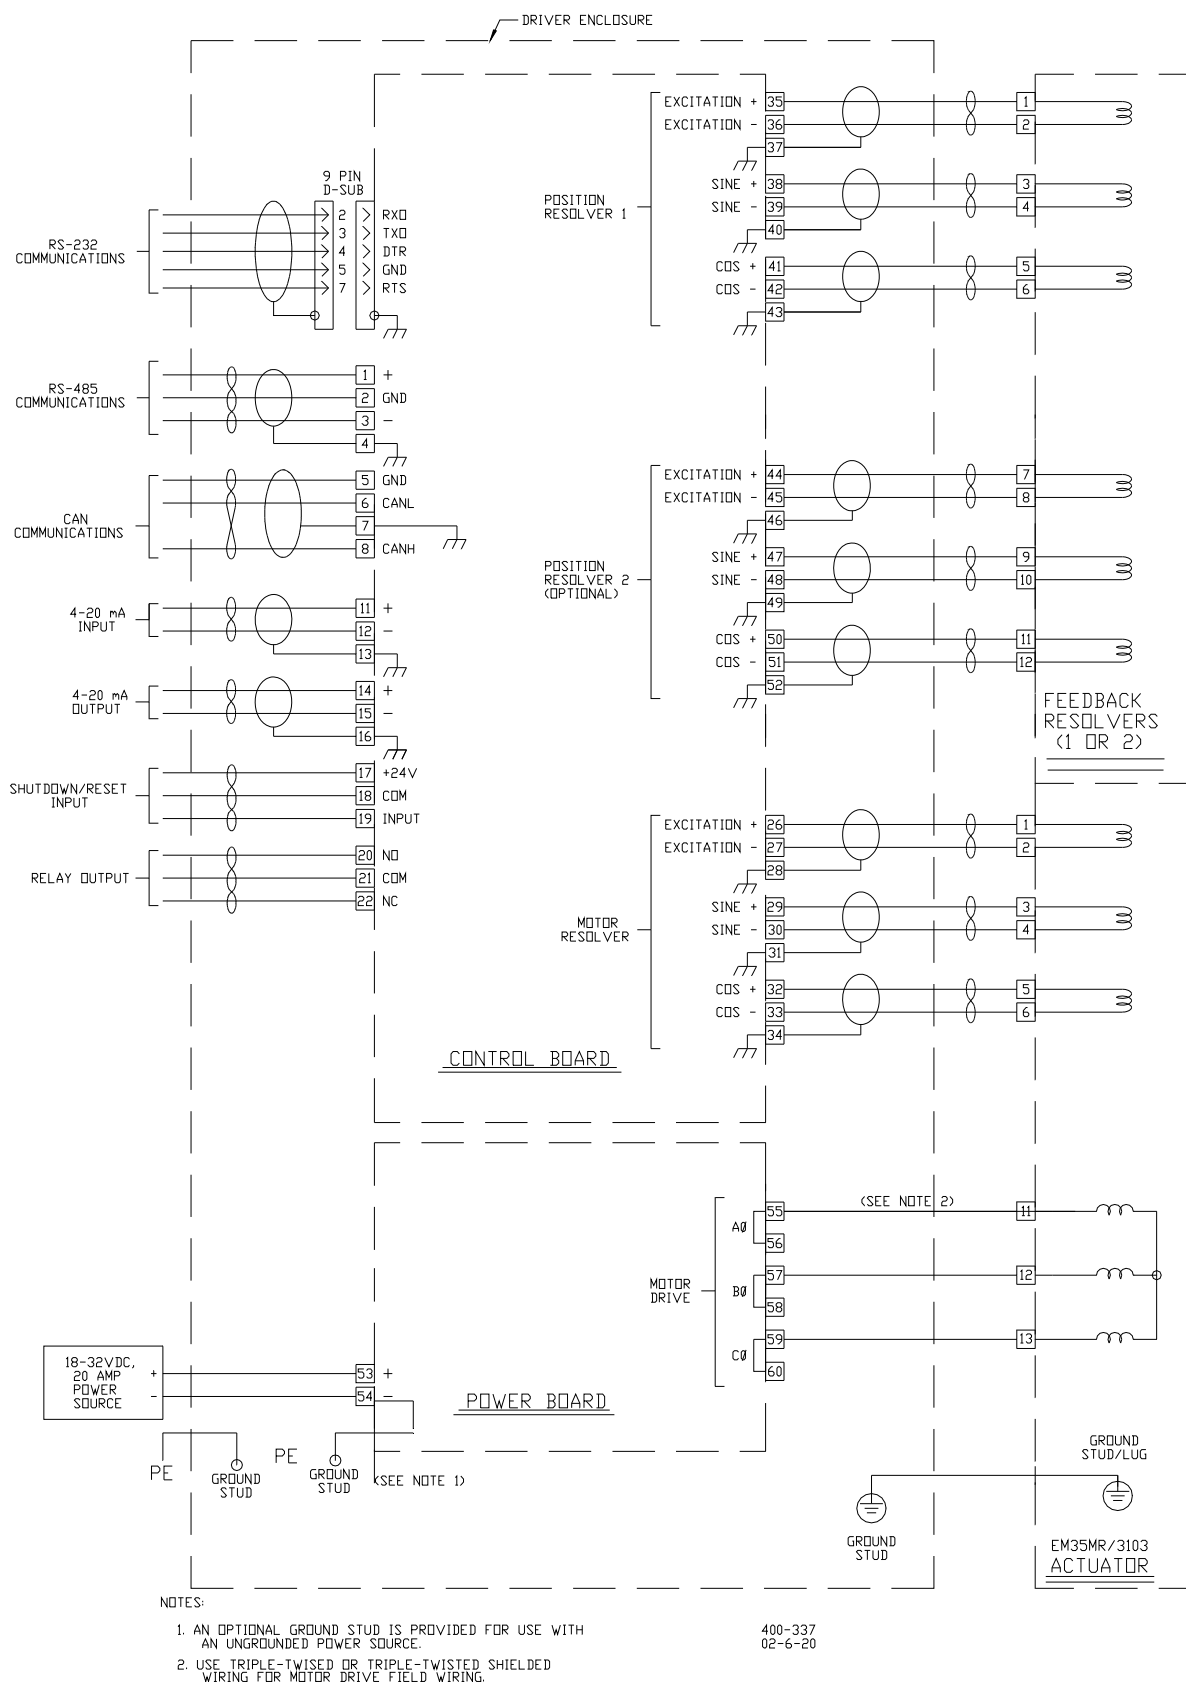

Figure 2-5. Plant Wiring Diagram
3. Connect the shields as shown in the plant wiring diagram (Figure 2-5). Wire exposed beyond the shield must not exceed 50 mm (2 inches). The other end of the shield must be left open and insulated from any other conductor.
Do not connect any cable grounds to "instrument ground", "control ground", or any non-earth ground system. Make all required electrical connections based on the wiring diagram (Figure 2-5).
Figure 2-5 is the plant wiring diagrams for the EM driver, EM35MR1 actuator/3171A gas valve when conduit is used for all wire runs.